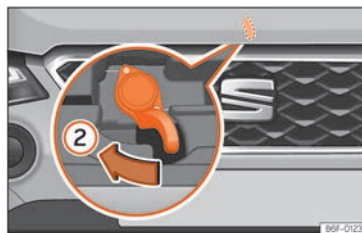

Fig. 179 Lever under the bonnet.
- To lift the bonnet, press towards the left on the lever located under the bonnet, in the centre »»» **Fig. 179 ②**. The fastening hooks are unlocked.